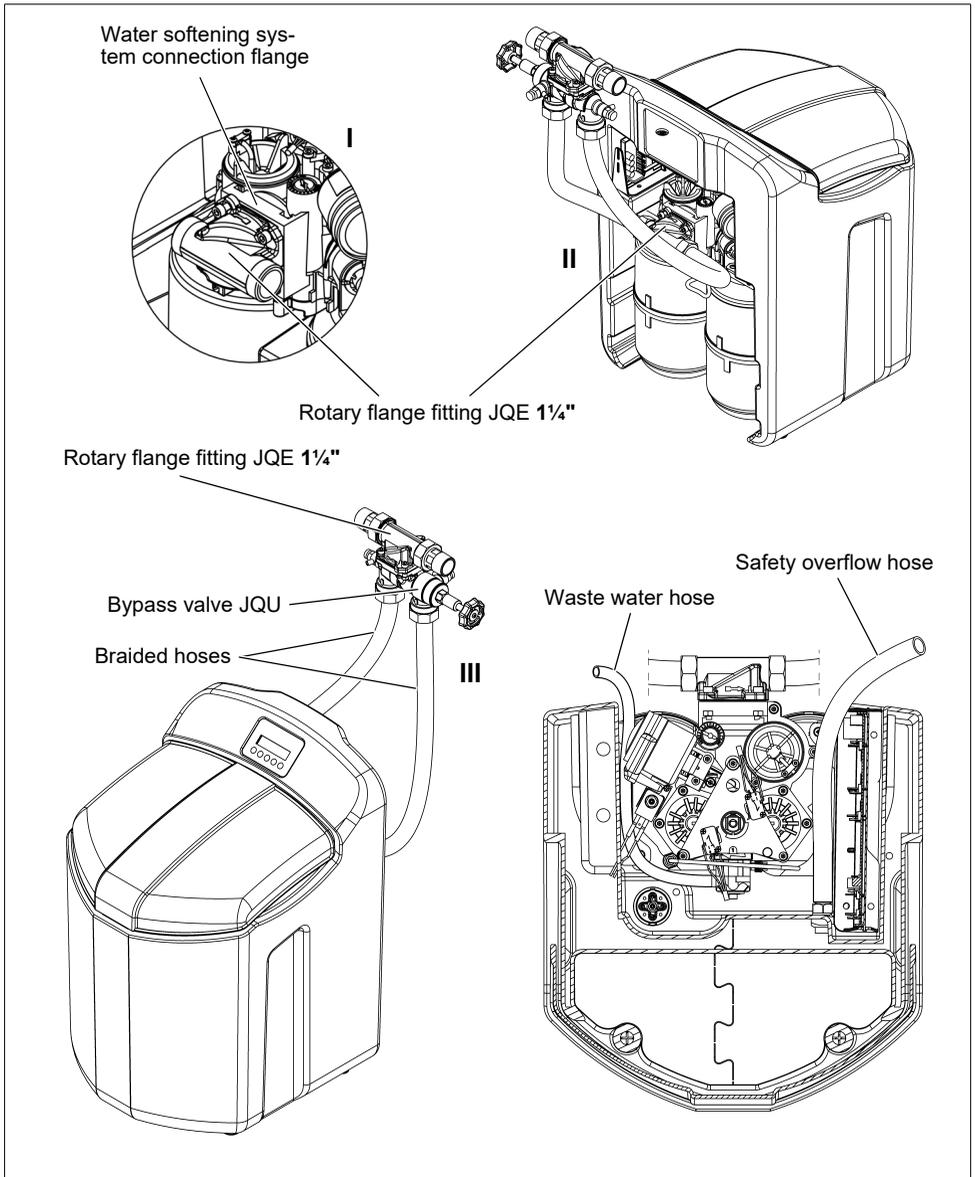

Fig. 5: Installation of the water softening system
- Connect the rotary flange fitting 1¼" to the connection flange of the water softening system by engaging the bayonet (see fig. 5 I). In doing so observe the flow direction arrow on the rotary flange fitting!
- Connect the braided hoses to the rotary flange fitting JQE 1¼" (see fig. 5 II).
- Connect the free ends of the braided hoses to the bypass valve JQU (see fig. 5 III). Here too observe the direction of flow!